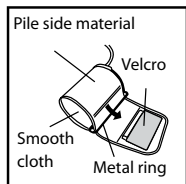

Fig. 5
3. If the cuff is located correctly, the velcro will be on the outside of the cuff and the metal ring will not touch the skin (Fig. 5).